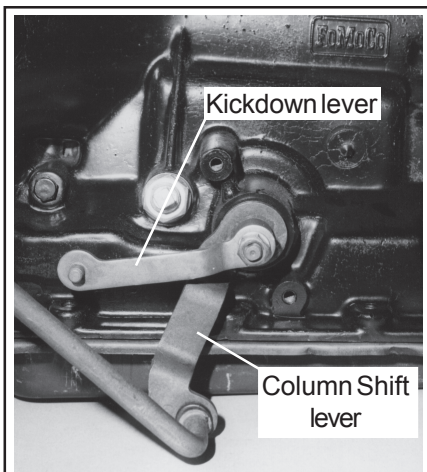

Figure 1
**STEP 3.** Disconnect vacuum line to vacuum modulator. Disconnect kickdown linkage. (See Figs. 1&2) Remove clip holding rod or cable to kickdown lever and allow rod or cable to hang free. Disconnect shifter:
**Column Shift Models:** Disconnect rod or cable from shift lever on transmission. (See Fig. 1) The rod or cable is retained by a clip or by snapping into a plastic grommet. Remove clip or pry rod out of grommet and allow linkage to hang free. Cable models; unbolt cable bracket from bell housing and allow cable to hang free.
**Column Shift Models:** Connect rod or cable to shift lever on transmission. (See Fig. 1) Snap rod into grommet retainers by squeezing rod and lever together with a pair of pliers. Connect rod or cable to clip retainer levers and install clip.
**STEP 25.** Connect kickdown linkage. (See Fig. 1 & 2) Connect rod or cable kickdown lever and install clip. Kickdown linkage should work smoothly with a positive spring return action.